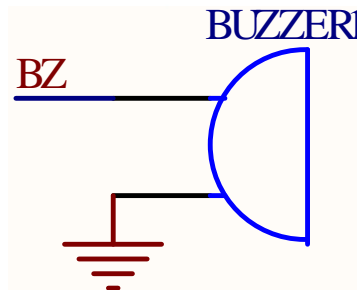

Figure 8
- ◆ BUZZER1 : Buzzer, connects to JUMP as PT1.7 signal as Figure 8 illustrated.